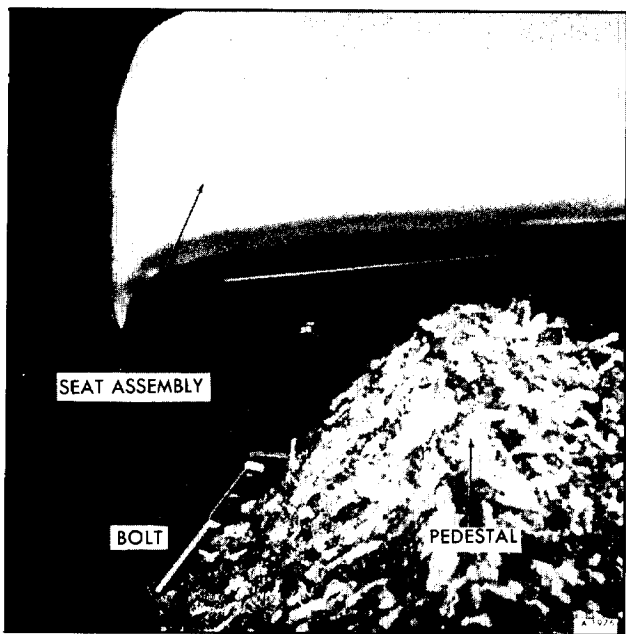

Figure 26—Seat Attaching Bolts
2. This will allow access to the four retaining bolts. Remove four bolts (See figure 26).